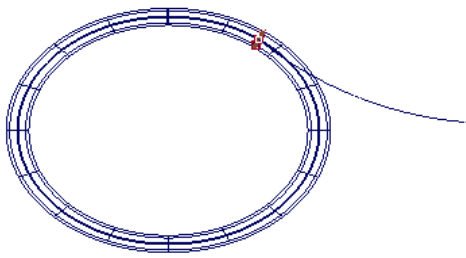

Figure 3-74 Arc created by using the **Arc (two point)** tool
12. Next, draw the arc by using the **Arc (two point)** tool from the **Curves** tab in the **Palette**, as shown in Figure 3-74.